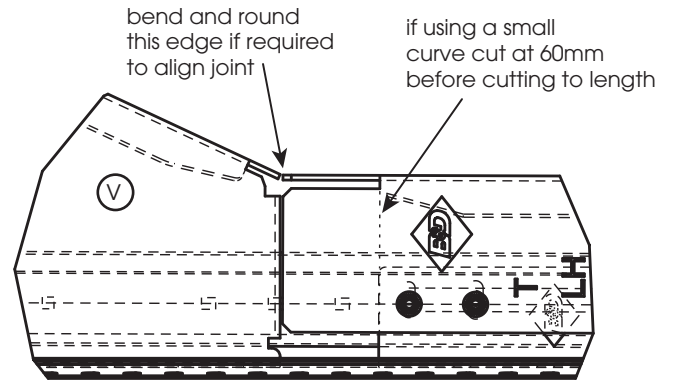
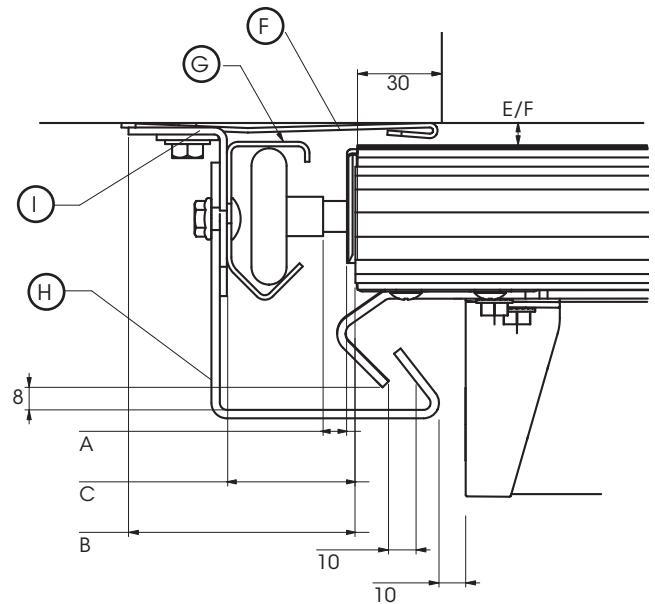
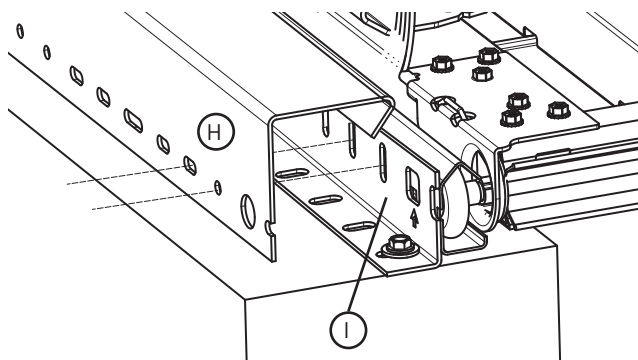

Fig: 3.8.1
Fig: 3.8.2
Fig: 3.8.3
- The top of the Tracklock (H) must be cut back 60mm as indicated at Figure 3.8.1. Only after removing this material can the tracklock be cut to length from the bottom as a pair.
- After cutting, align the Tracklock (H) with the Jamb Bracket (I). The top of the cut Tracklock should be a snug fit with the bottom of the top track bracket (V). Fig: 3.8.1.
- if too long only cut as a pair from the bottom. Align the Tracklock (H) holes with the Jamb Bracket (I) as shown in Fig 3.8.3. The top of the uncut Tracklock should be a snug fit with the bottom of the top track bracket (V) as per Fig 3.8.1.
- Attach via the key hole slots (Fig: 3.8.3) and ensure the clearance is correct refer Fig: 3.8.2.